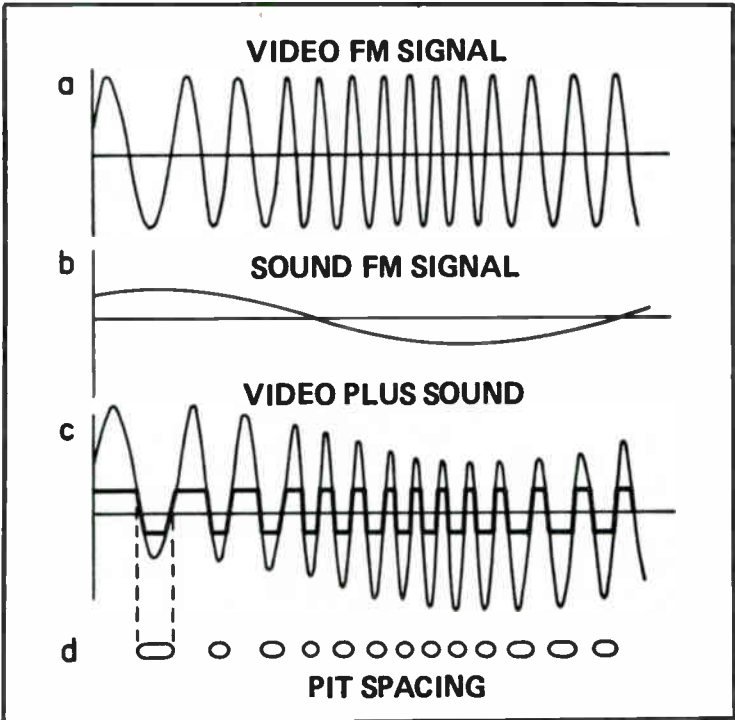

Fig. 11-4. Encoding of disc information.
Figure 11-4 is a simplified drawing of one of the sound carriers (B) being used to pulse width modulate the 8 MHz video FM (A). The resultant